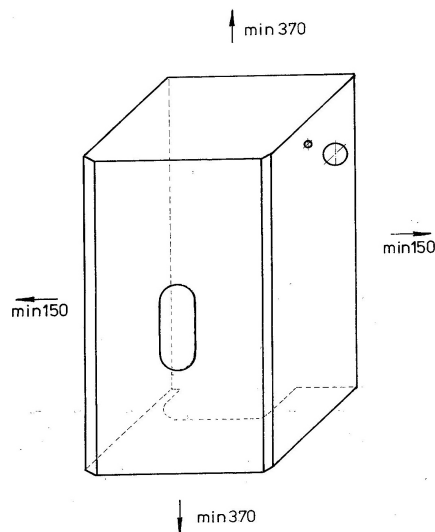

Fig. 6
**The electric boiler/module is mounted by consoles only on a wall that can bear its weight. The boiler location should be selected in a manner to secure access – technological tolerance from its all four sides is shown on Fig. 6 page 13, the distances being different for the various rated powers.**